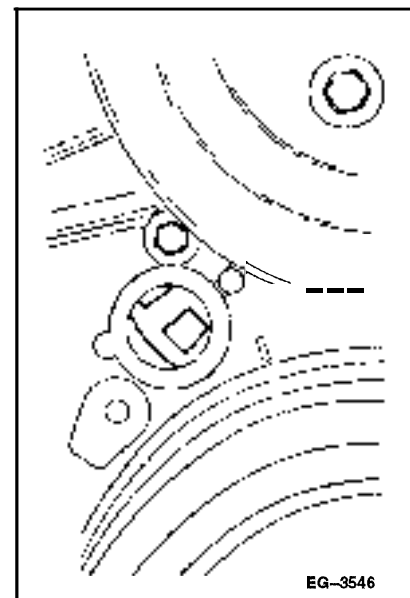

Figure 4.3. - View of Timing Disk (Not on Cyl. #1 Compression Stroke) Rotate Crankshaft 360°
- If the camshaft timing is either one tooth advanced or retarded the narrow vane will appear approximately 1/8" from either the upper or lower edge of the hole. Figure 4.3. Temporarily install CMP sensor, bar the engine over 360° until the CMP sensor pointer and the line on the crankshaft damper are aligned and re-inspect for the narrow vane on the timing disk.